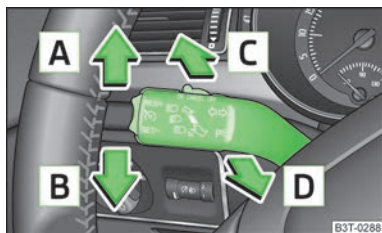

Fig. 36
- > Push the lever upwards **A** » Fig. 36 or downwards **B**.